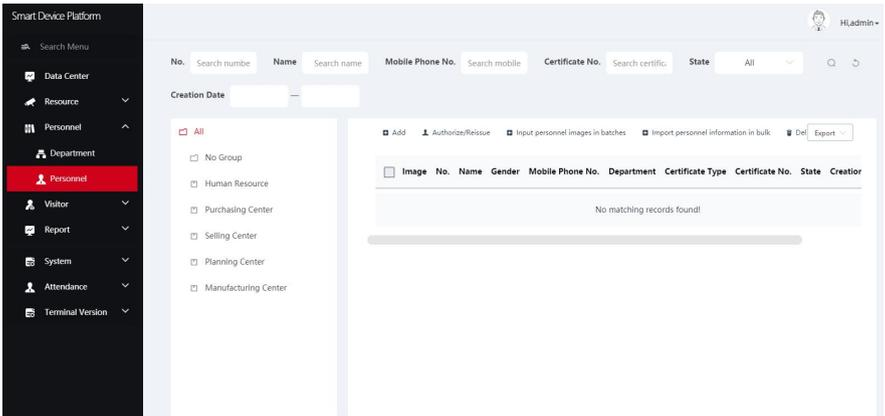

Figure 5-39
Step 1: In the smart device platform interface, click "Personnel→Personnel" to enter the personnel management interface, as shown in Figure 5-39 below.